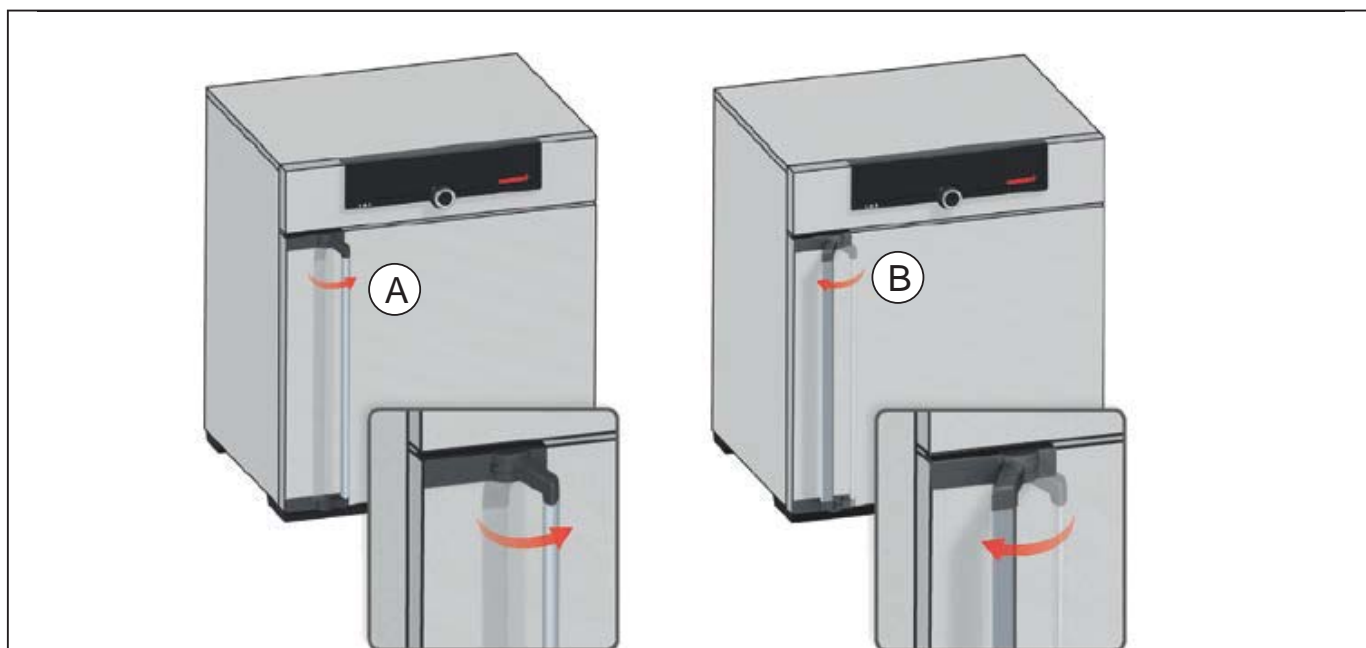

Fig. 13 Opening and closing the door
- ▶ To open the door, pull the door handle to the side (to the left or to the right, depending on the door variation, see Fig. 13, A) and open the door completely.
- ▶ To close the appliance, push the door closed and the door handle to the side (B).